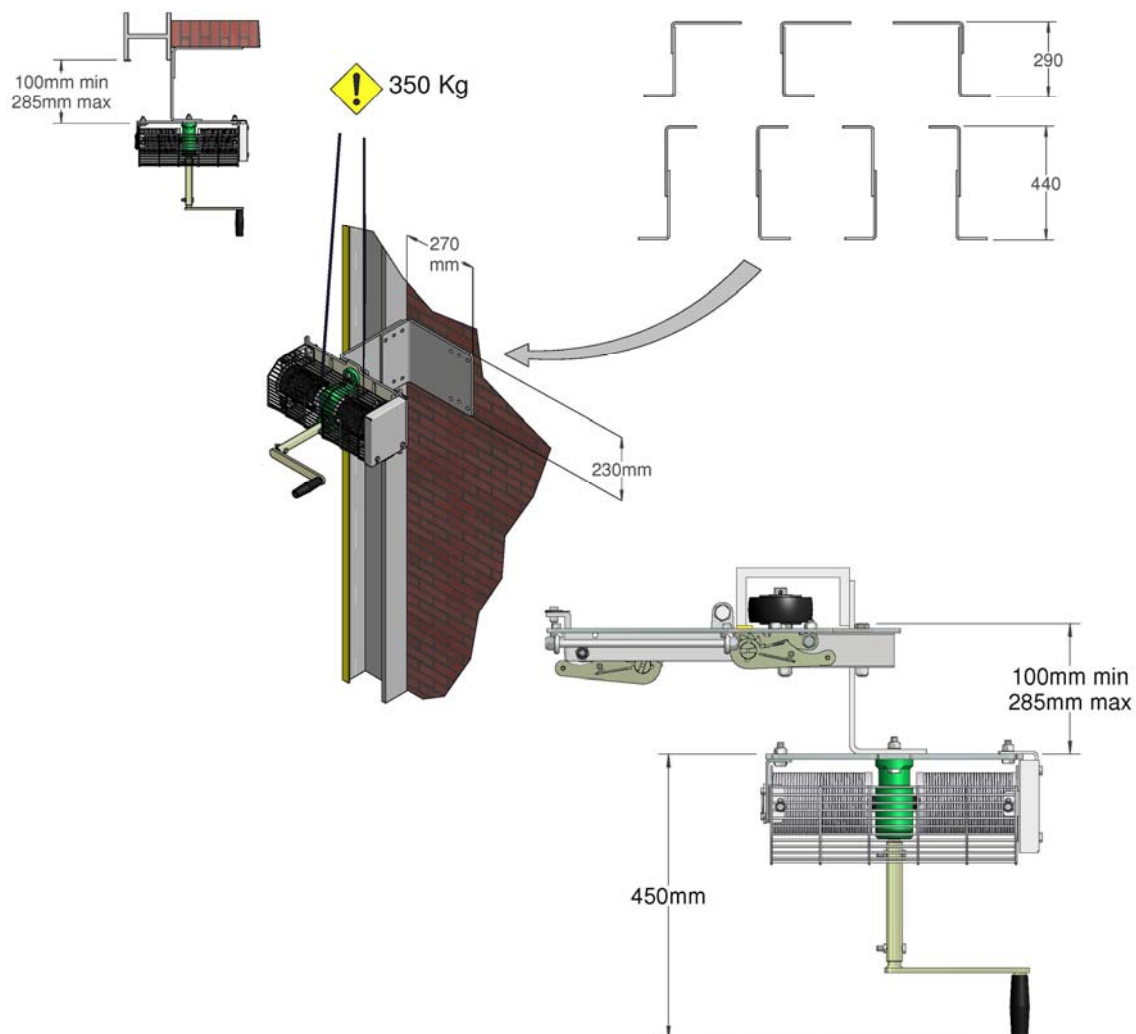

Figure 6
2.3 Figure 6 shows the various fitting possibilities for the manual drive (B1) using the long and short faces of the two mounting plates (D1) supplied. Four M10 x 30 Bolts are supplied to fasten the two plates together with four M10 x 50 Bolts to secure mounting plates to a metal surface up to 25mm thick. (i.e. Plate, Channel, H-Beam, etc). Customer needs to supply own fastenings if securing to wood or concrete. Ensure the mounting surface can withstand the maximum door weight of 350kg.